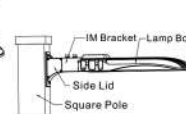

Figure 5-2
- 2: Let the power cable in the front part of the IM bracket go through the back part. Sheath the front part to the back part and fix them with top bolt. Connect the power cable with pole cable, make sure good protection on the wire connection and put the wire in the back part. Close the side lid and tighten it, (Figure 5-2) then finish installation.